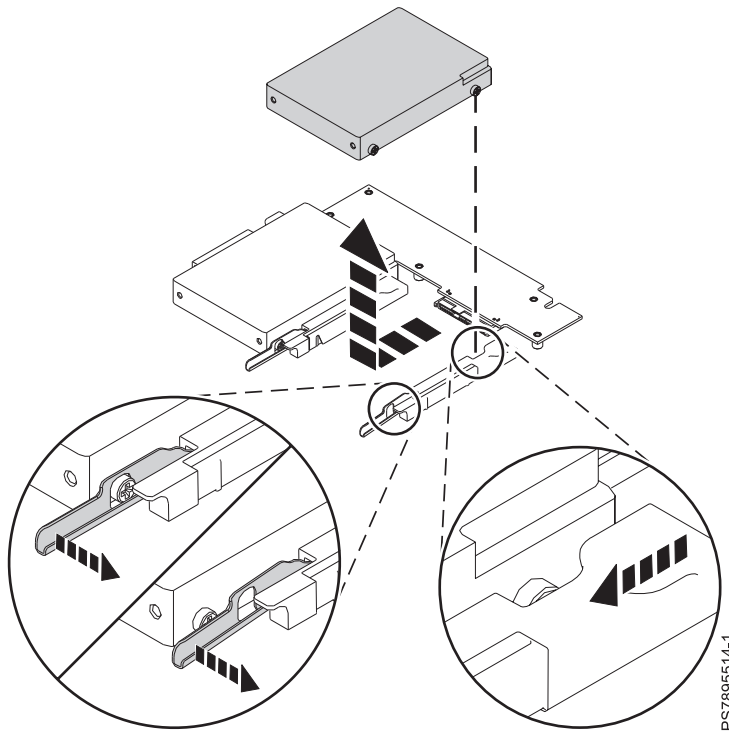

Figure 10. Removing a hard disk drive
- a. Move and hold the blue release lever at the front of the drive tray, as indicated in Figure 10.